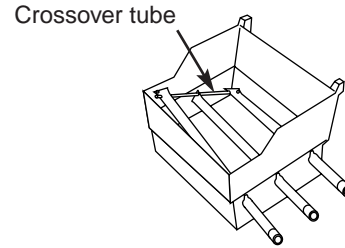

Figure 19
- g) Lift and twist the burner assembly slightly, to separate the crossover tube from the burners. Figure 19. Remove the burners from the cooking box.